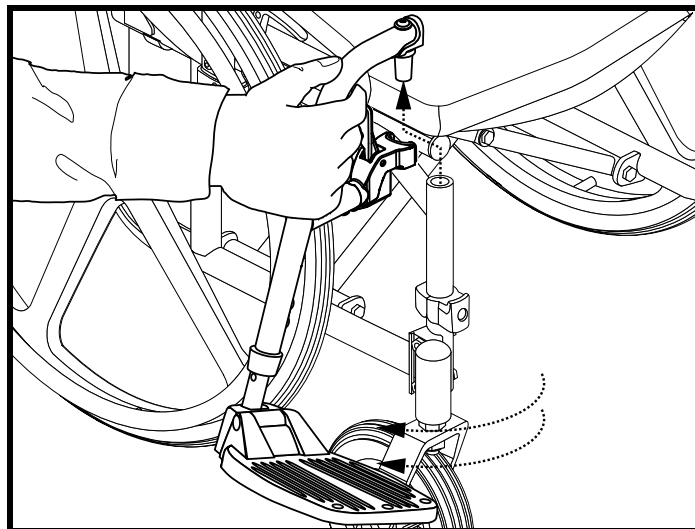

Figure 23. SFR Removal
2. Pull the SFR up. See figure 23.